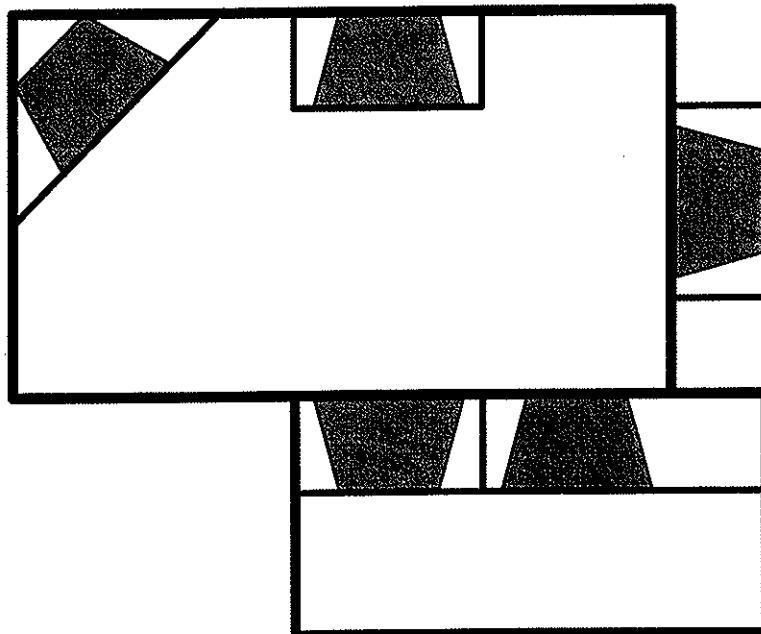

Figure 8
- Minimize modifications to existing construction. *Refer to Figure 8 below for location suggestions.*